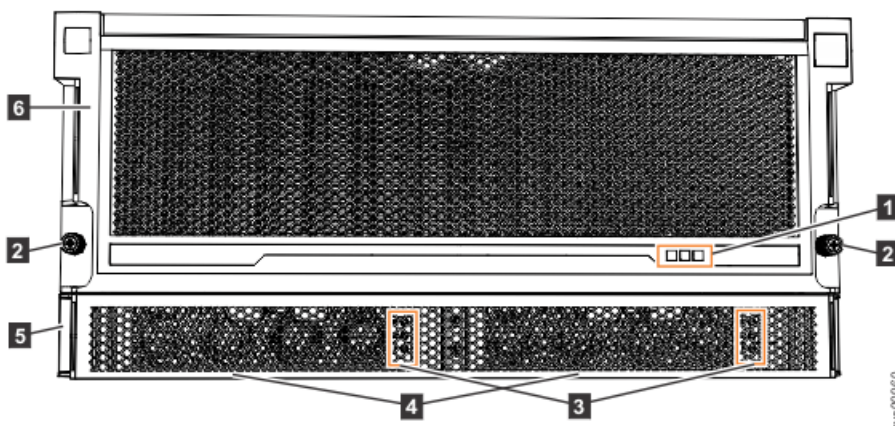

Figure 51. Features on the front of the Model 092 expansion enclosure
**Important:** Before you connect the power cables to the rear of the enclosure, always check that the expansion enclosure is secured in the rack. If needed, tighten the thumbscrews on the front of the enclosure (**2** in Figure 51 on page 62) to ensure that the enclosure drawer does not roll open.
The Model 092 expansion enclosure has two power supply units (PSUs) that are accessible from the front of the enclosure (**4** in Figure 51 on page 62). As the figure also shows, the PSUs are covered by the 1U fascia (**5**).